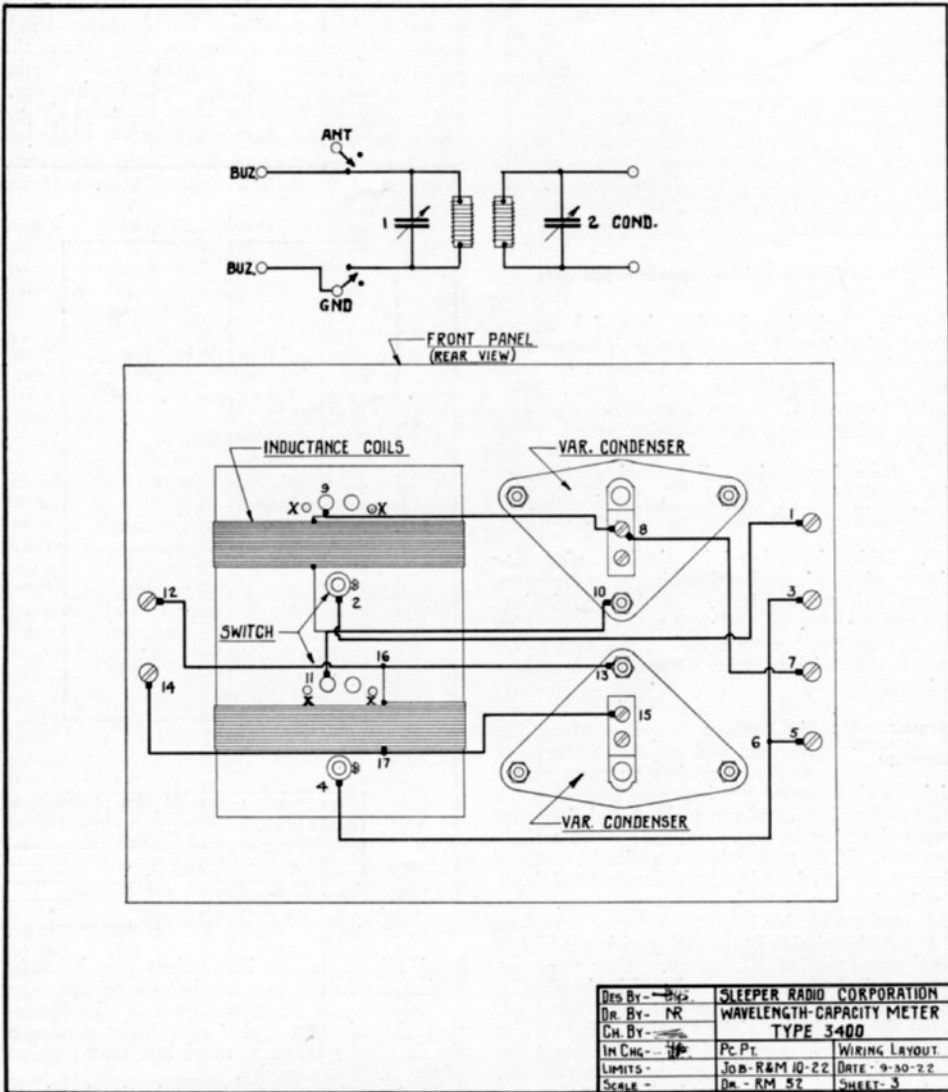

Fig. 6. Schematic and picture circuits for the wavelength, capacity meter
should point in the directions shown in the layout. See numbers 1, 3, 5, 7, 12 and 14 in Fig. 6.
9. Solder the ends of the windings, after slipping a piece of spaghetti tubing over leads, to points indicated in Fig. 6. On the top winding, the upper end goes to lug 9 and lower end to lug 11; on the bottom winding, the upper end goes to bus wire at point 16 and lower end to point 17.